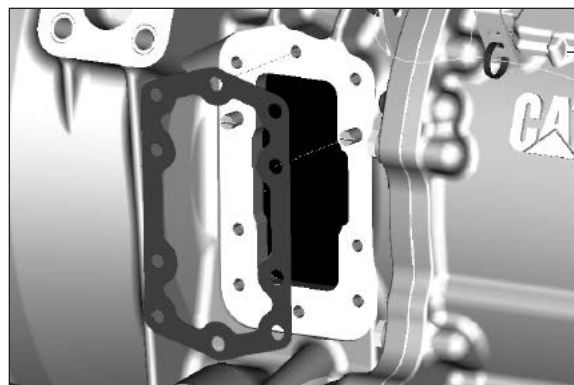

Fig. 31
4. Install the special gasket over the guide pins. The ribbed surface should face outward, toward the installer (**Fig. 31**).